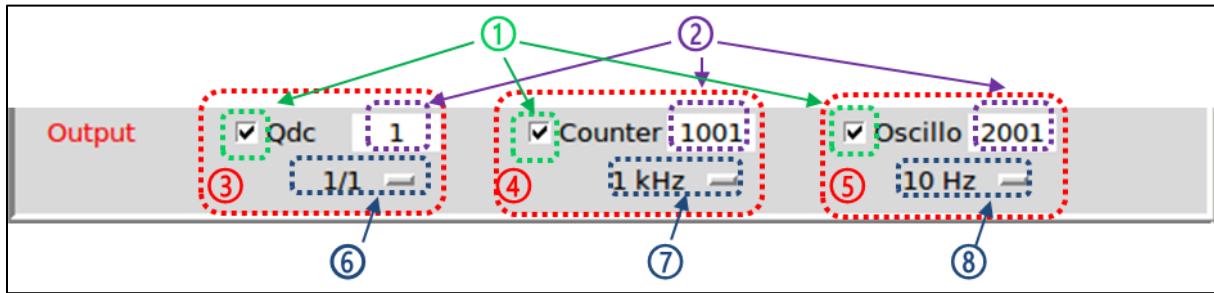

Figure 52: parameters of the Data output module
The Data output module (Figure 52) defines the output data sent to the computer by checking buttons ①. These data are:
- the data processed by the QDC module ③,
- the counting data ④,
- the data from the Oscilloscope module ⑤.